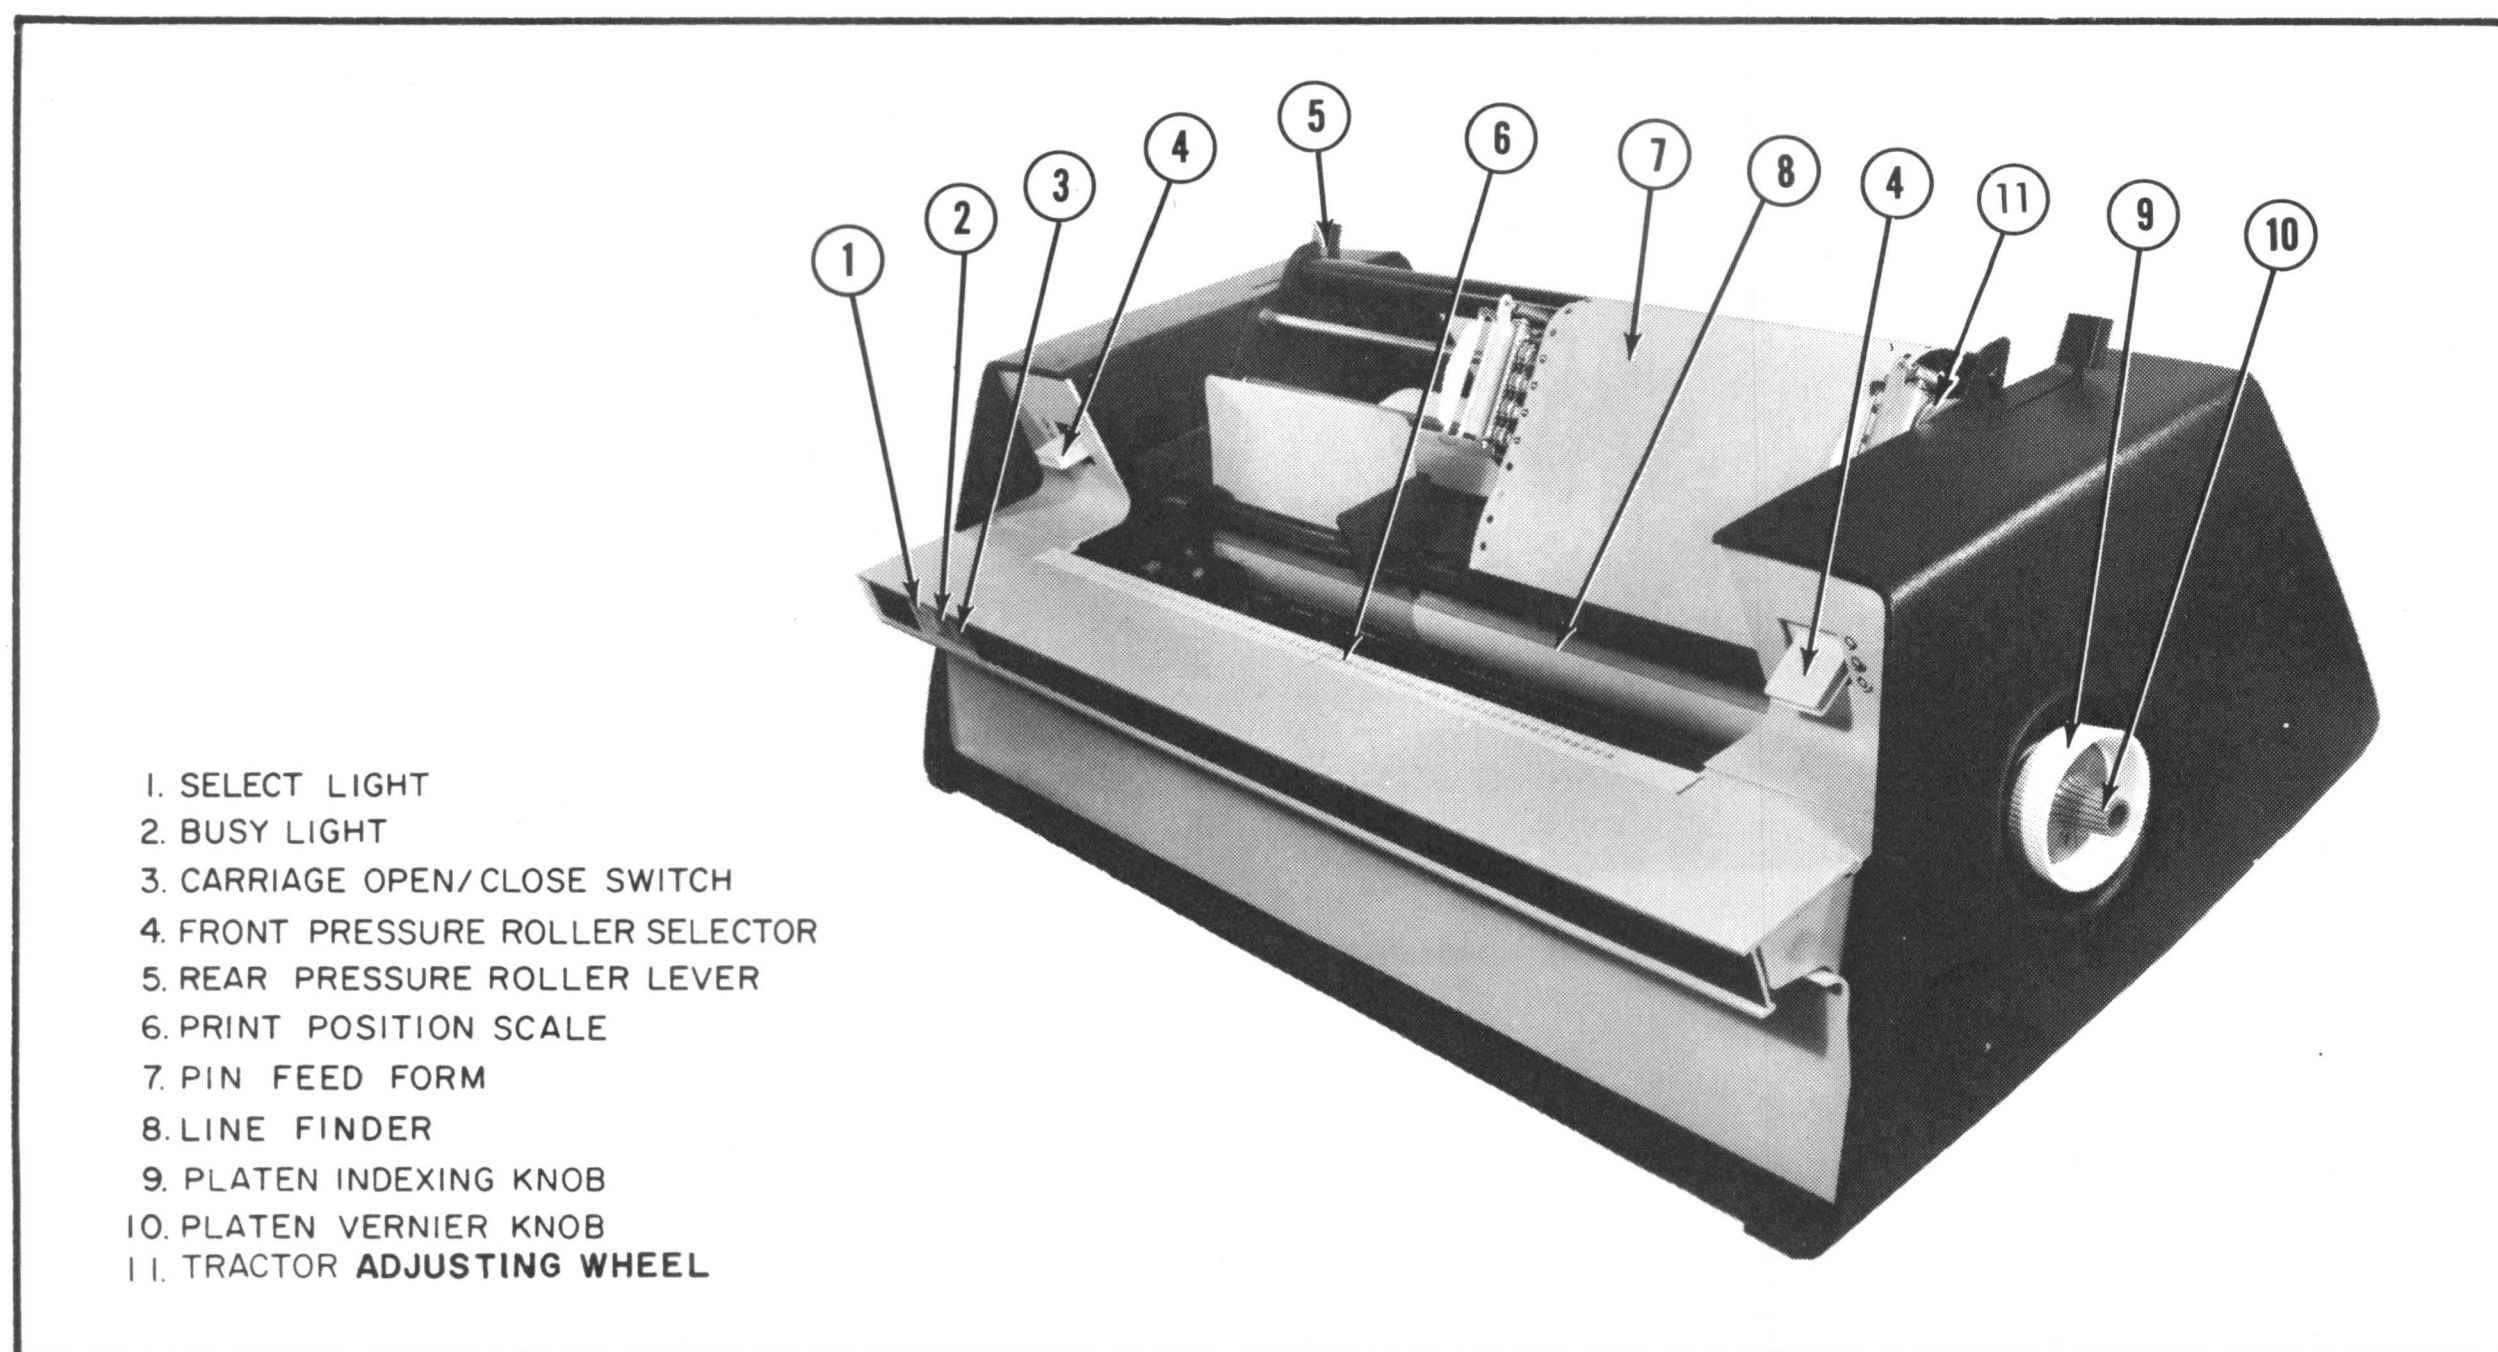

Figure 6.2
The front pressure rollers are used to hold the journal roll and front-fed forms against the platen. Separate sets of rollers are provided for the left and right platens. Each set of rollers is controlled by a selector (Number 4, Figure 6.2).
The rear pressure rollers are used to hold the journal roll against the platen. Separate sets of rollers are provided for the left and right platens. Each set of rollers is controlled by a lever (Number 5, Figure 6.2). To open the rollers, the lever is pushed to the rear of the printer. To close the rollers, the lever is pulled forward.
- D. If the entire tractor assembly has to be moved sideways to correctly align the form, use the tractor adjusting wheel (Number 11, Figure 6.2). Turning this wheel clockwise or counter clockwise moves both tractors to the right or left.